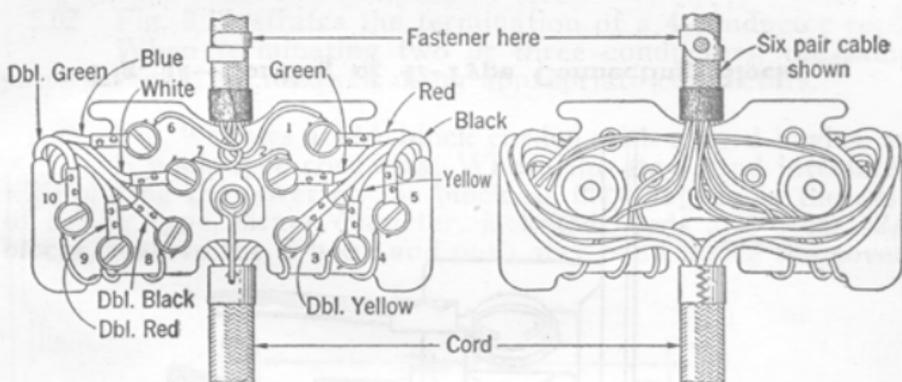

Fig. 15—One 44A Connecting Block—Use 101A Cover
5.11 The wiring and cording of 44A connecting blocks are shown in Figs. 15, 16, 17, 18, and 19. Inside wiring cable is shown, as it is expected that this type cable will generally be used with these connecting blocks. Lead covered cable may, however, be used in a similar manner where conditions require it.